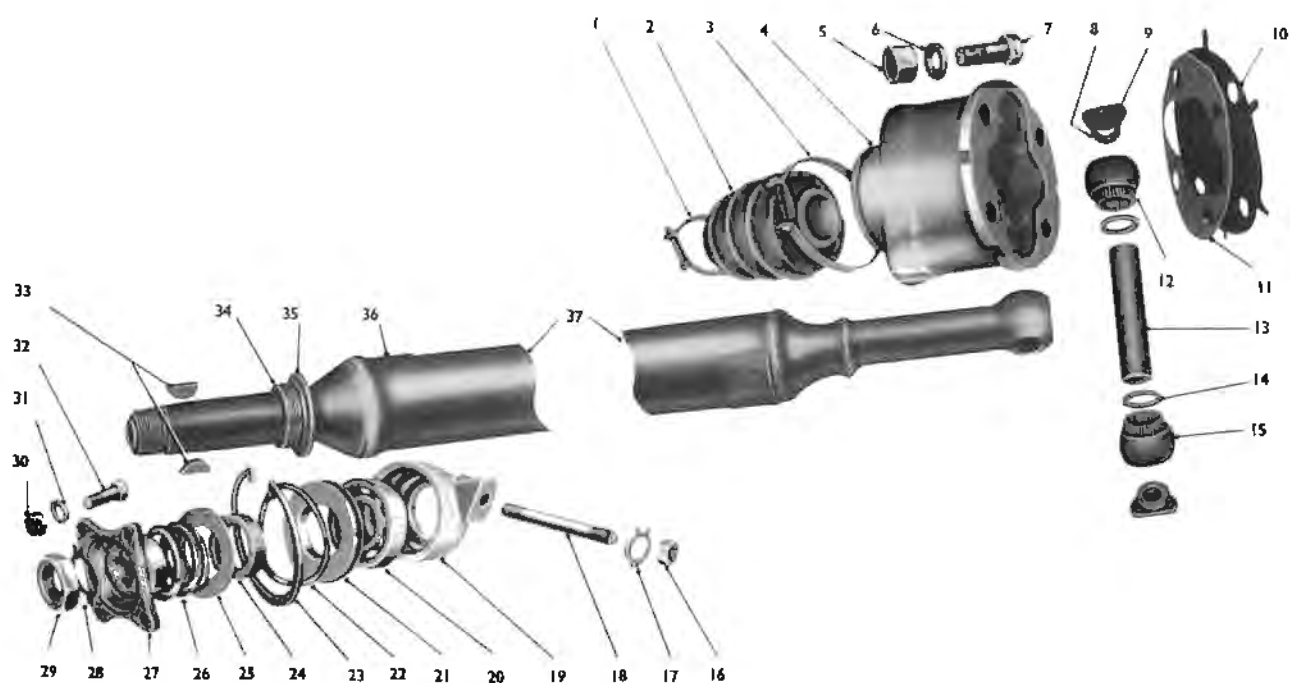

Fig. F11 Front propeller shaft and centre joint
Fit the Woodruff keys and flange, ensuring that the correlation marks (2) are in the correct relative positions. Renew the lock-washer and tighten the flange retaining nut to the torque loading of 150–180 lb.ft. An exploded view of the centre bearing is shown in Figure F11.